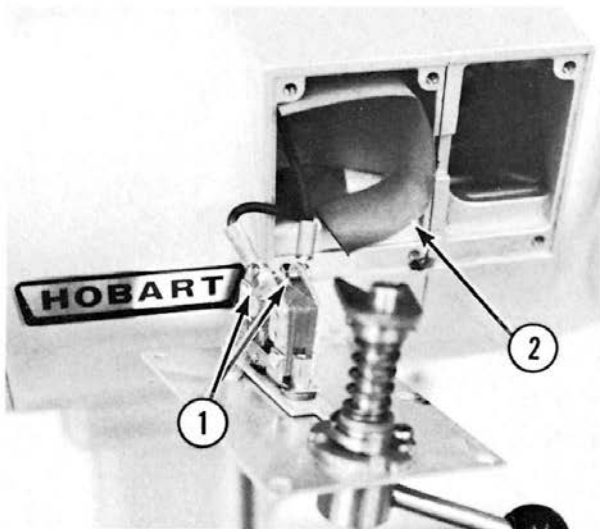

Fig. 3-2
B. Disconnect the two wires (1, Fig. 3-2) from the switch. Remove the switch unit.
C. Remove the insulating strip (2, Fig. 3-2).